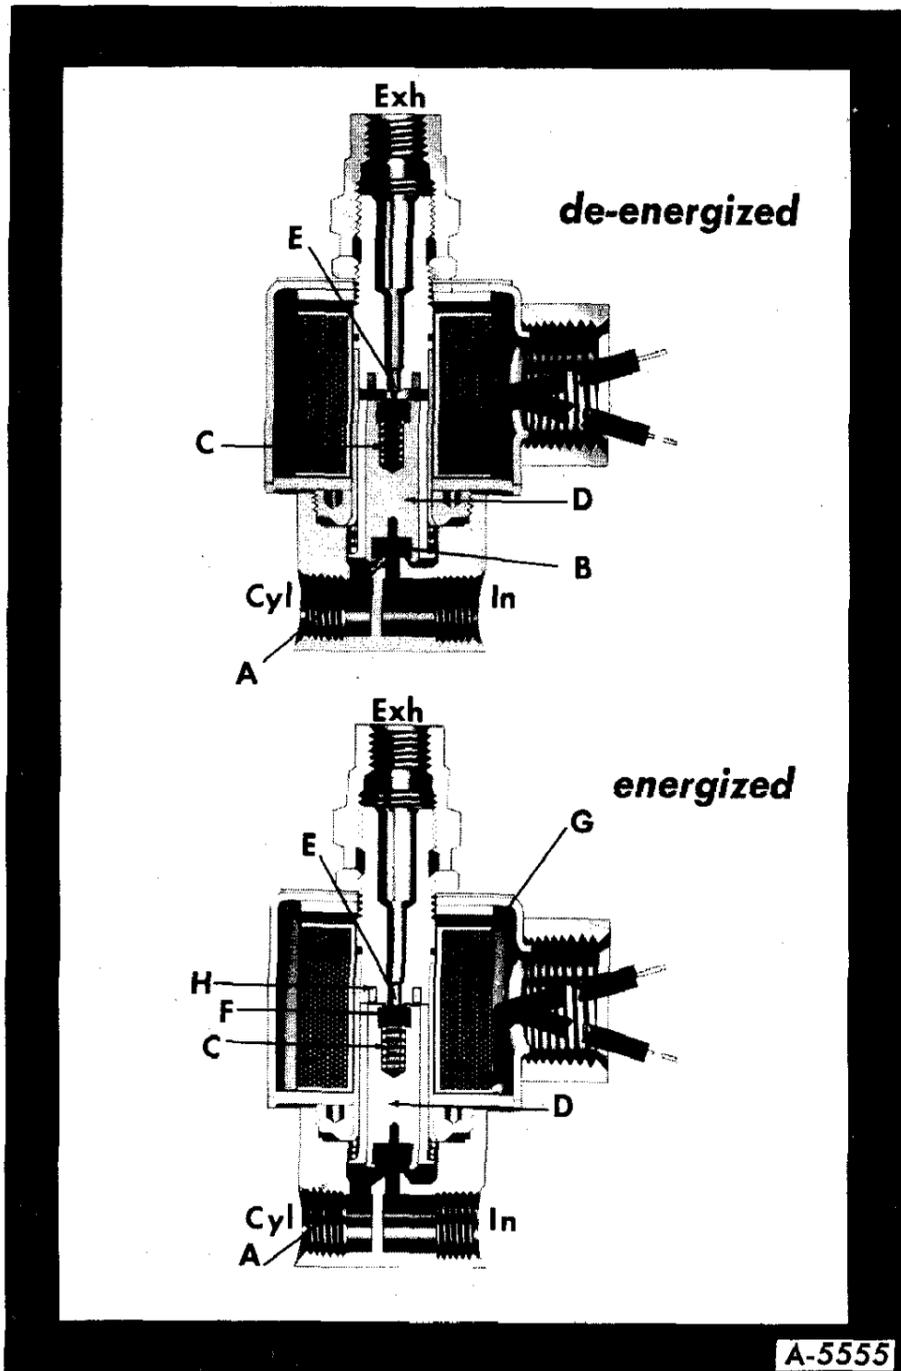

Figure 11—Three-Way Solenoid Valve
**THREE-WAY VALVE**—a valve that has 2 orifices and three ports. One orifice is always open when the other is closed and one port is always open to one of the other two ports. Flow is controlled by electrically opening or closing either of the two orifices (figure 11).